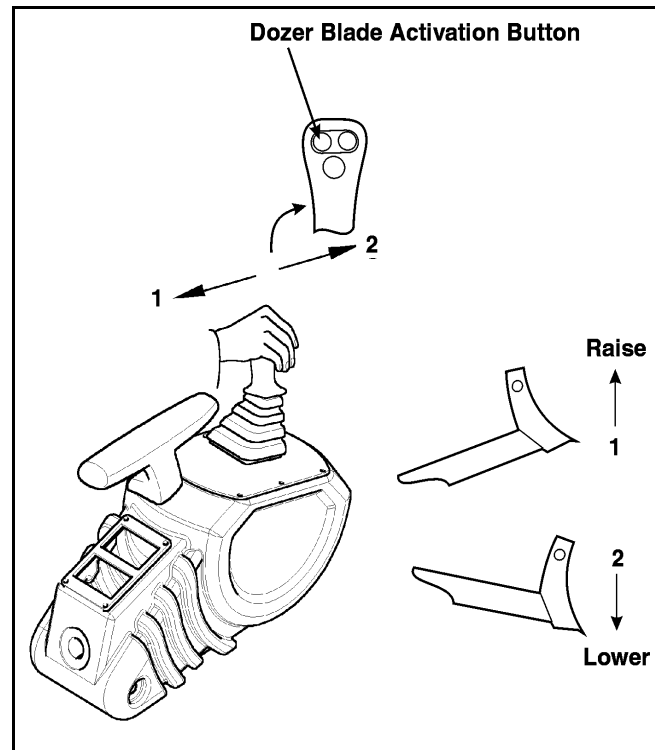

Figure 3-16 Dozer Blade Controls (Older Excavators)
On older excavators, the dozer blade is controlled with a combination of the dozer blade activation button and the right joystick. See Figure 3-16.
1. Raise or lower the dozer blade by pressing and holding the dozer blade activation button on the right-hand joystick. Move joystick forward to lower the blade, rearward to raise the blade. See Figure 3-16.